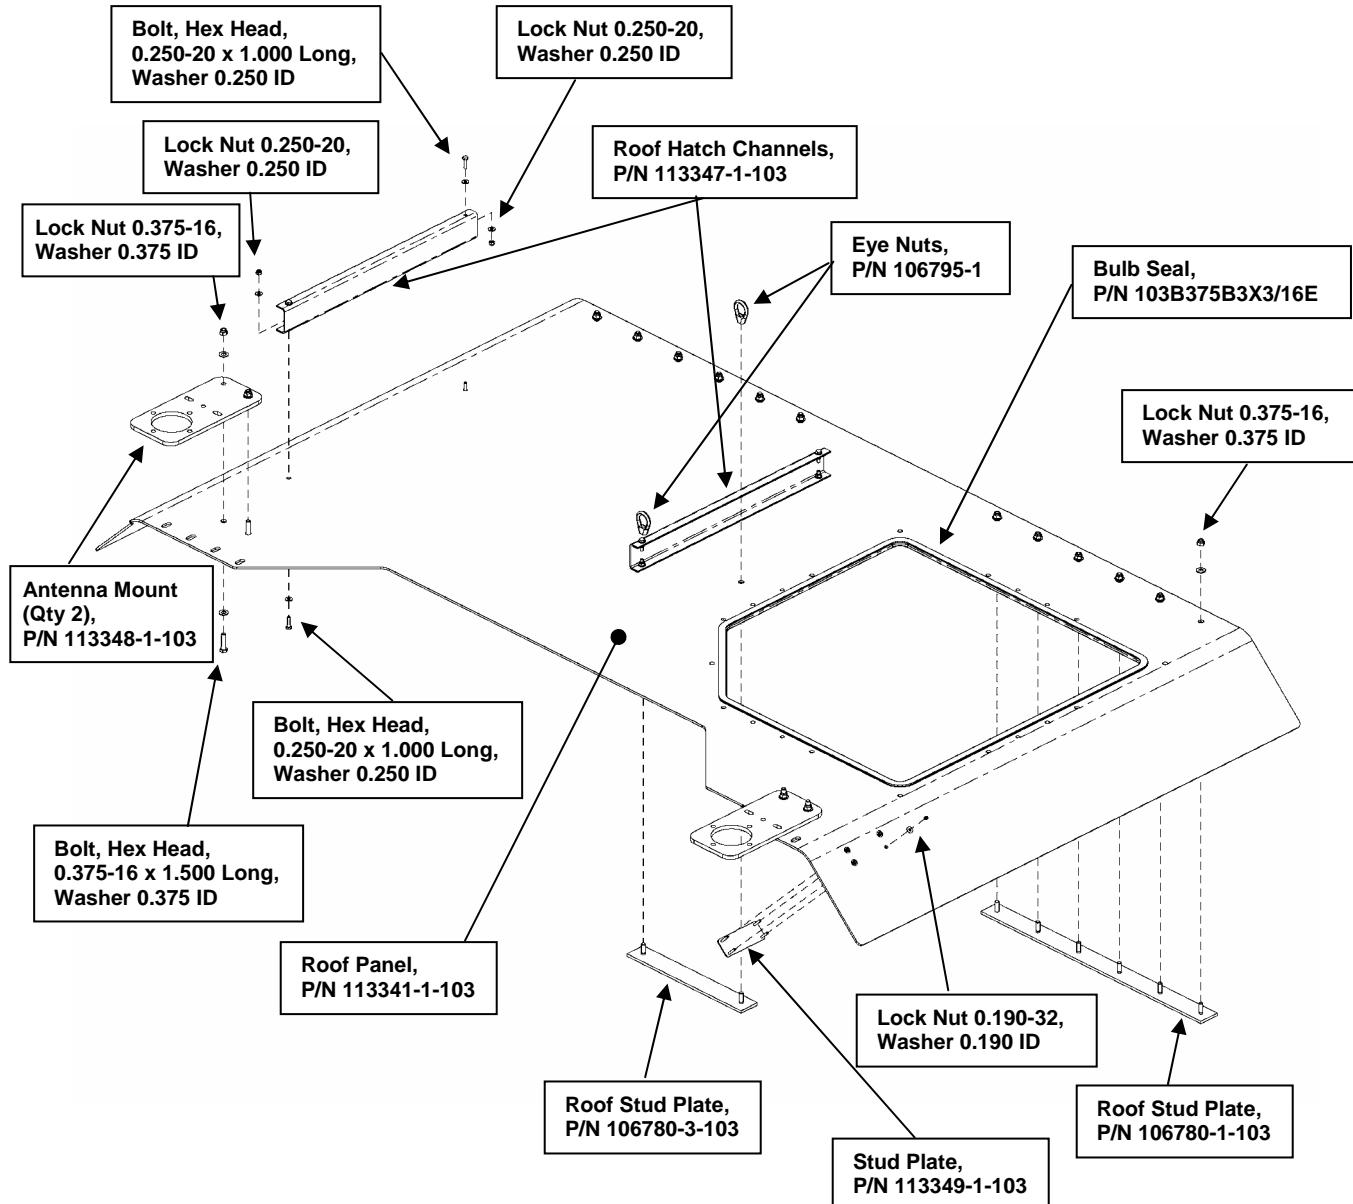

Figure 38. Roof Assembly installation.
- Attach all of the parts shown in Figure 38 to the Roof Panel (P/N 113341-1-103) using the hardware indicated in the figure.